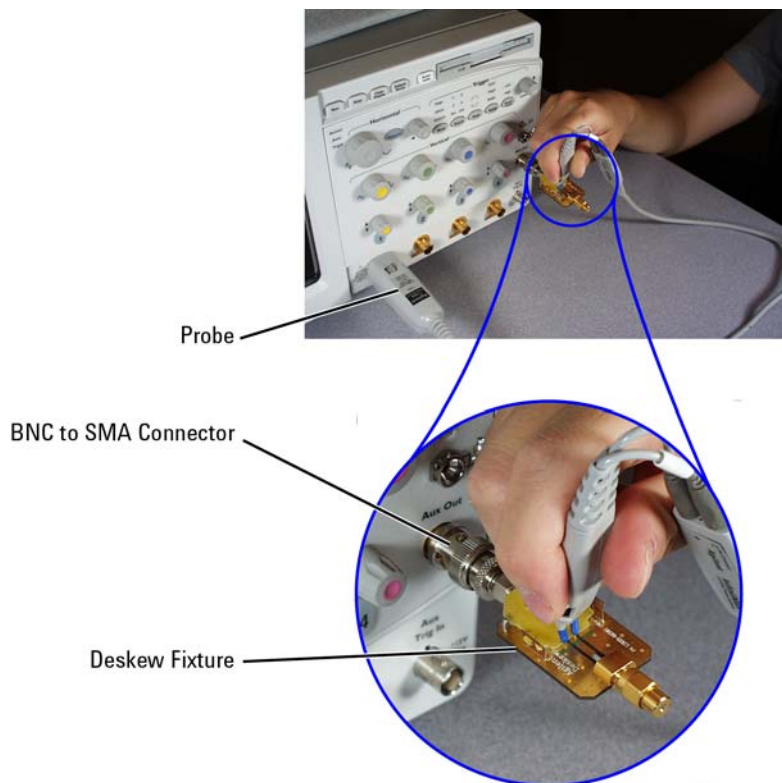

Figure 91 Placing the Probe on the Fixture
- 1 As shown in Figure 91 on page 130, connect BNC (male) to SMA (male) adaptor to the deskew fixture on the connector closest to the yellow pincher.